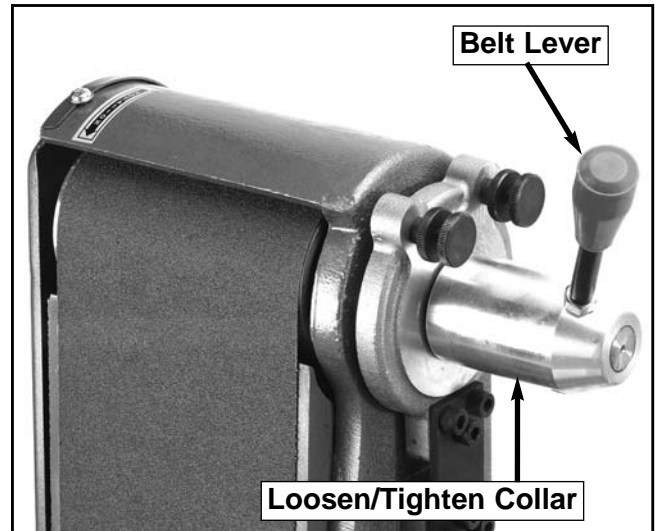

Figure 7. Attaching belt lever.
1. Thread the belt lever onto the loosen/tighten collar and secure with the checknut. See **Figure 7**.